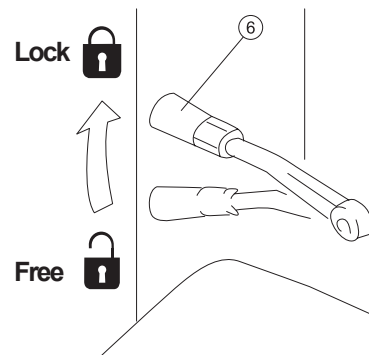

Figure 2-8
Brake lock lever (6) (Figure 2-8)